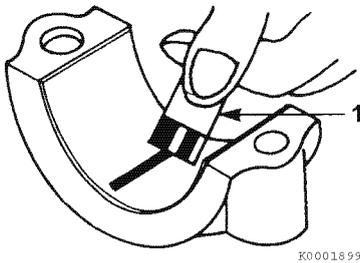

Figure 6-59
- 6- Compare the width of the flattened PLASTIGAGE to the graduation marks on the package (1, **Figure 6-59**). The mark that most closely matches the width of the flattened PLASTIGAGE will indicate the bearing oil clearance.